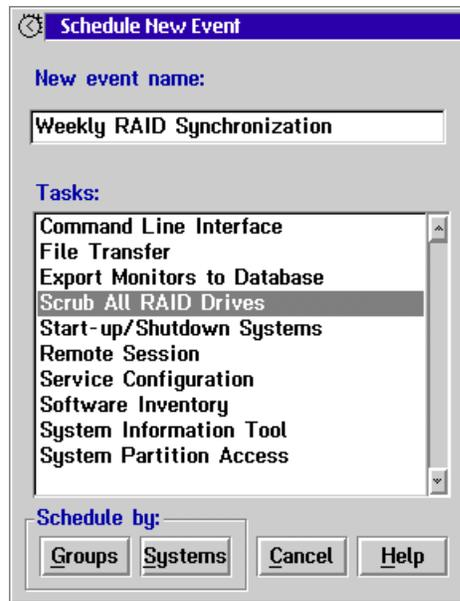

Figure 37. Creating a New Scheduled Event
2. Click on **New**. Figure 37 on page 58 appears.